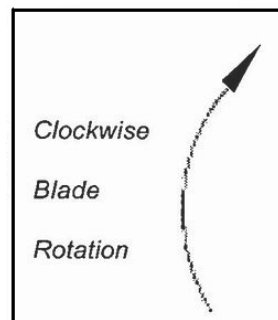

Figure 5. Blade Rotation Direction
1. Get into operator's position behind the centre of handlebar with good footing and apply the throttle slowly until desired speed is obtained. The blades of the Trowel spin in a clockwise direction (Figure 5). All ACE Trowels are directed left or right by applying a slight upward (lifting) or downward (lowering) pressure on the handlebar (respectively).